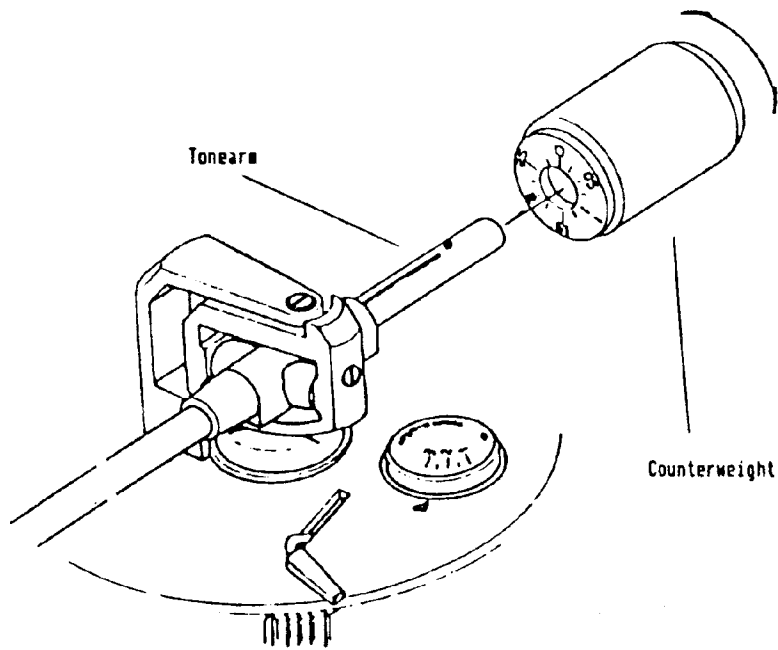

Fig. 2
- 3) Attach the counterweight to the tonearm (see Fig. 2).